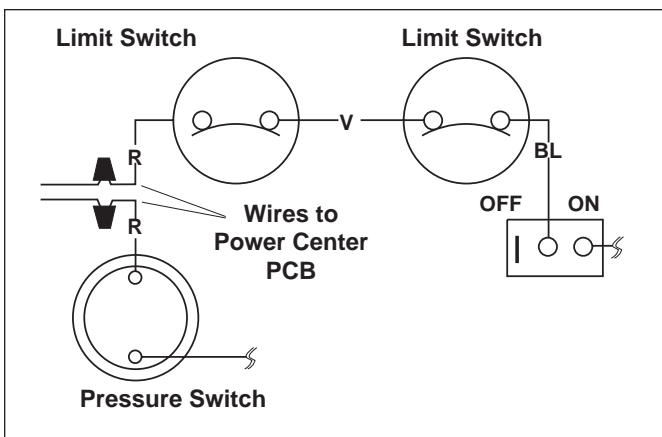

Figure 12. Hayward Heater Wiring with AquaLink RS
3. Wire nut two (2) heater wires from AquaLink RS P.C. Board to the two (2) red wires of the heater (see Figure 12).